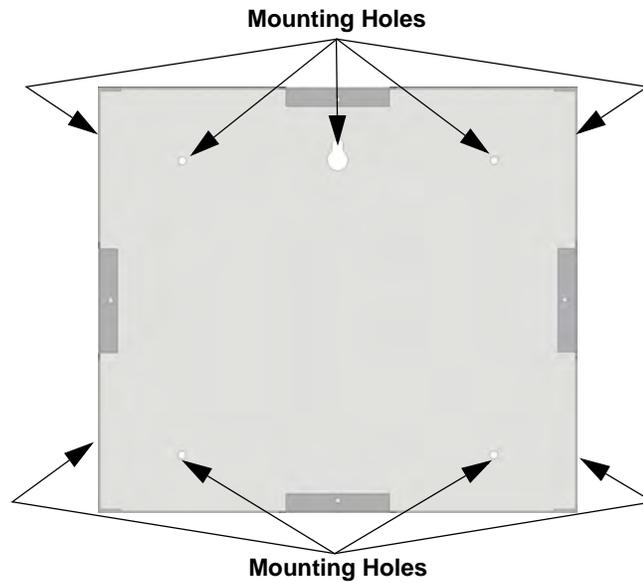

Figure 4.27 Back Box Mounting Holes
The optional Model RA-2000 Remote Annunciator, shown in Figure 4.27. The RA-2000 can be surface or flush mounted. . It is available in gray color as RA-2000 GRAY.
1. The back box dimensions are 9 $\frac{1}{4}$ " W x 8 $\frac{3}{8}$ " H. The minimum depth required is 2". The back box can be mounted prior to the complete installation of the RA-2000 using any of the mounting holes shown in Figure 4.27.